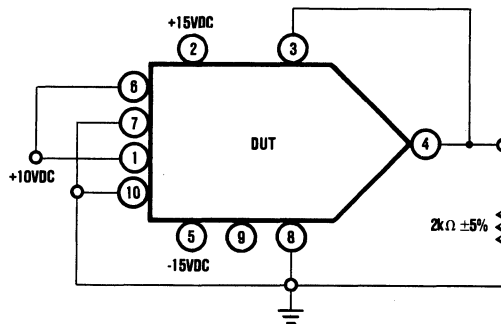

FIGURE 5. Test Circuit, Burn-in and Operating Life Test.
- (1) Test condition B
- (2) Test circuit is Figure 5 herein
- (3) $T_A = +125^\circ\text{C}$ minimum
- (4) Test duration is 160 hours minimum
- (3) $T_A = 125^\circ\text{C}$ minimum
- (4) Test duration is 1000 hours minimum